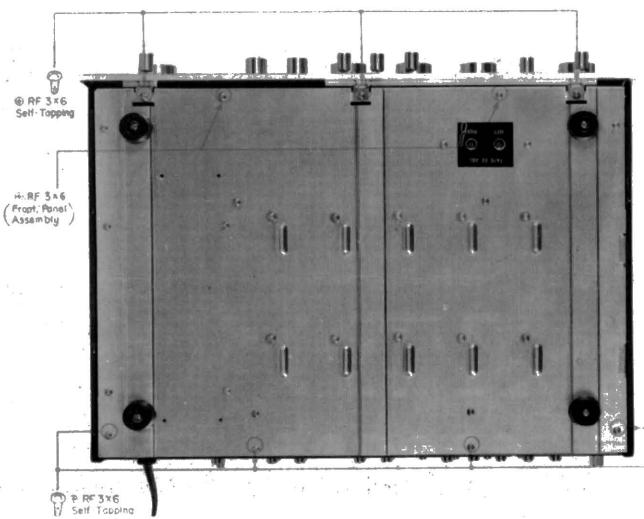

Fig. 2-3. Removal of Front-Panel Ass'y
- d. Turn the set over and remove the two self-tapping screws (+RF3 ϕ × 6) from the front-bottom edge of the chassis. See Fig 2-3.
- Turn the set over and remove the three Phillips-Head screws (+RF3φ × 6) at the front-bottom edge of the chassis. See Fig. 2-3. This frees the Front Panel.